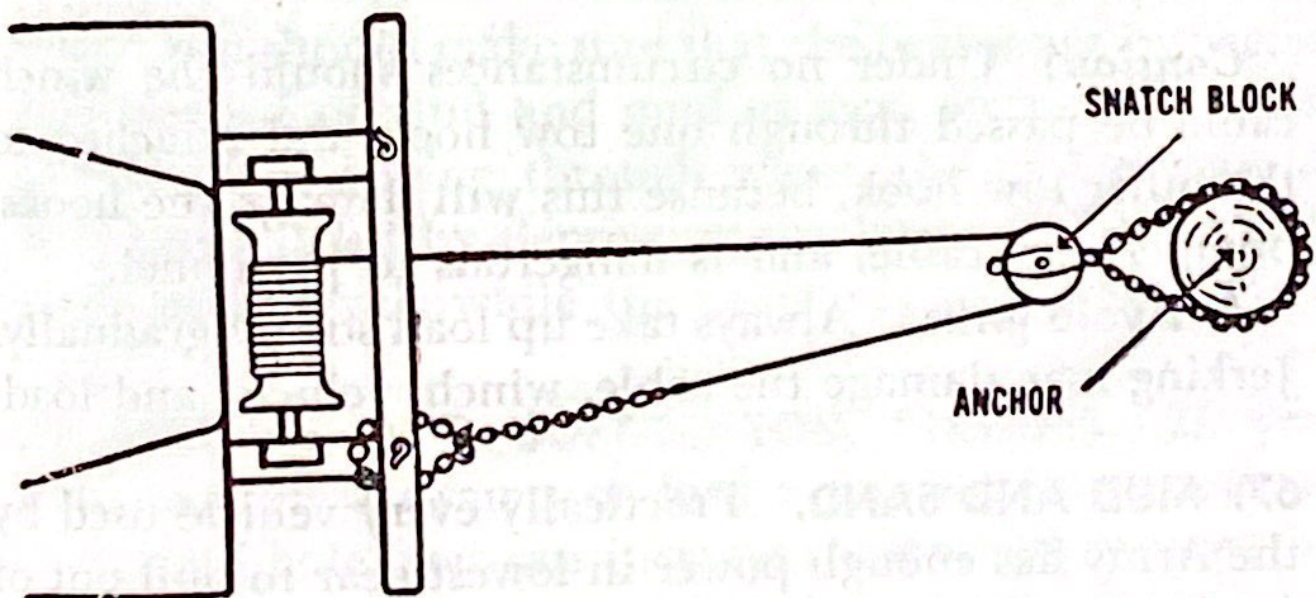

Figure 29. Rig with chain passed under the bumper bar.
(2) If a spreader bar is not available, attach the chain or rope in the following manner: Pass the rope or chain under the bumper bar, up over the side rail, then down under the bumper bar: then attach the rope or chain to the tow hook or to itself (fig. 29). Steel cable should not be wrapped around the bumper bar, as the cable would be deformed or broken.